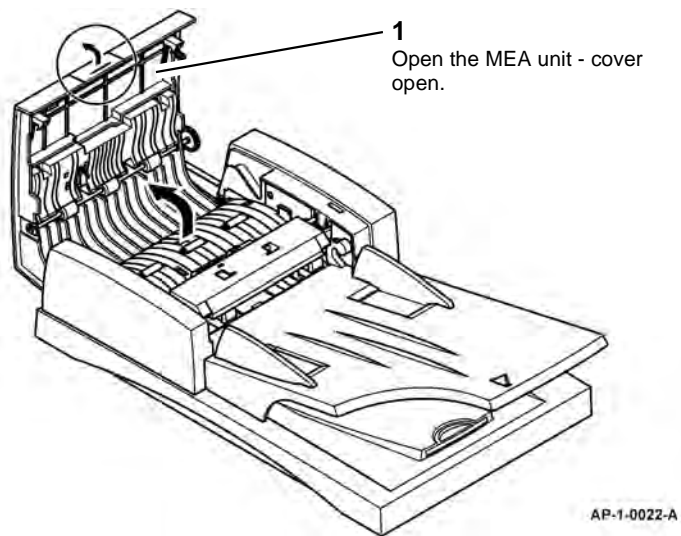

Figure 3 MEA unit - cover open
4. Open the MEA unit - cover open, Figure 3.